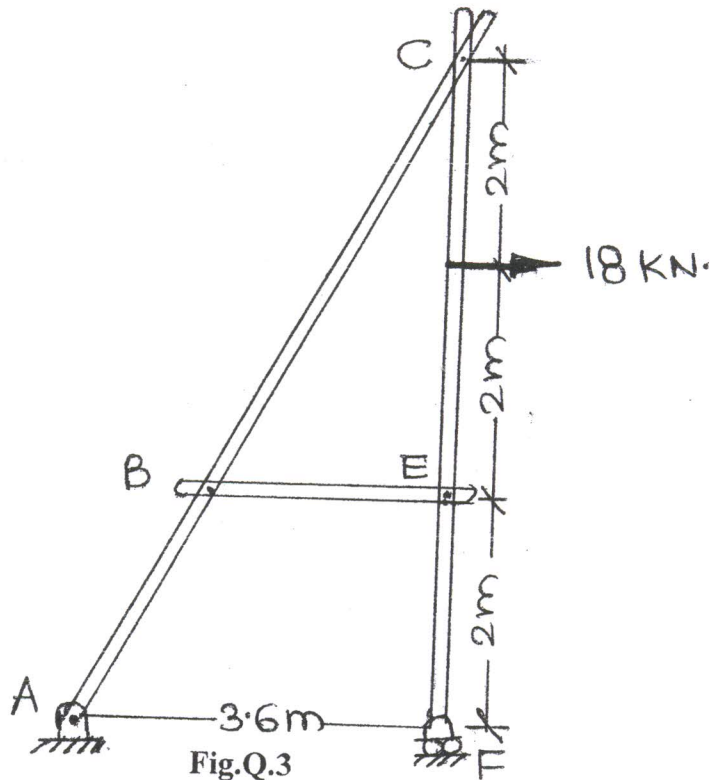

Fig.Q.3
Q.3 A plane frame is loaded as shown in Fig.Q.3. Determine components of forces acting on members ABC, BE and CEF. Draw free body diagram of each member and indicate forces acting at each pin.